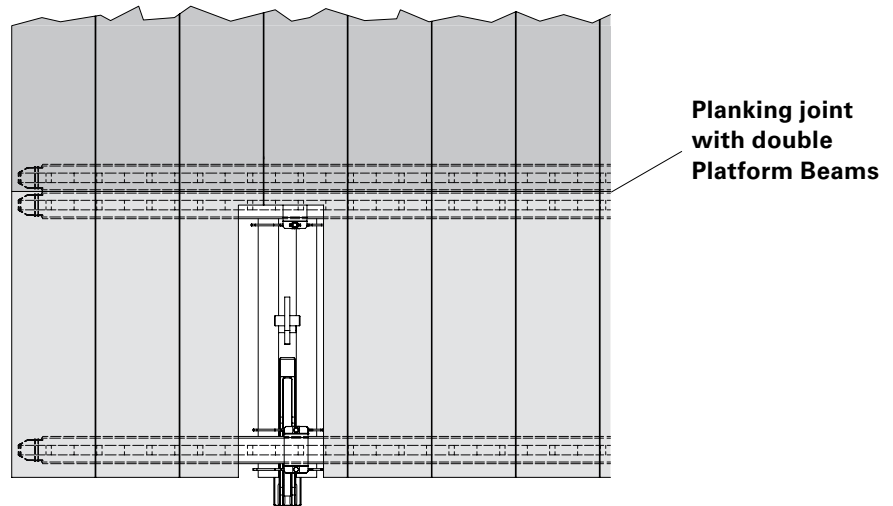

Fig. B2.10
- Always realise the joints of the planking with double Platform Beams. (Fig. B2.10)